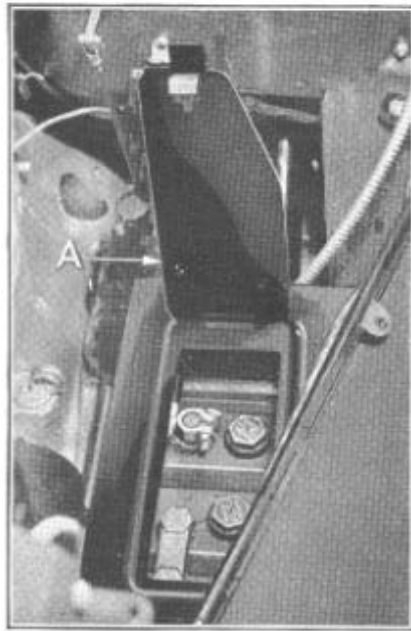

Figure 29
Therefore, for convenience of inspection and servicing, the battery is located under the left front fender and is easily accessible through the left side of the engine compartment. The battery is set in a tray and is provided with a sheet metal cover to protect it from cold drafts during winter driving and the underhood temperatures during summer months. As an added convenience, a hinged lid (A), Figure 29, is provided in the cover directly over the battery cell caps, so that it is merely necessary to lift the lid to take hydrometer readings and add distilled water. The cover may be removed by merely removing two bolts along the top flange and one bolt on the rear flange.